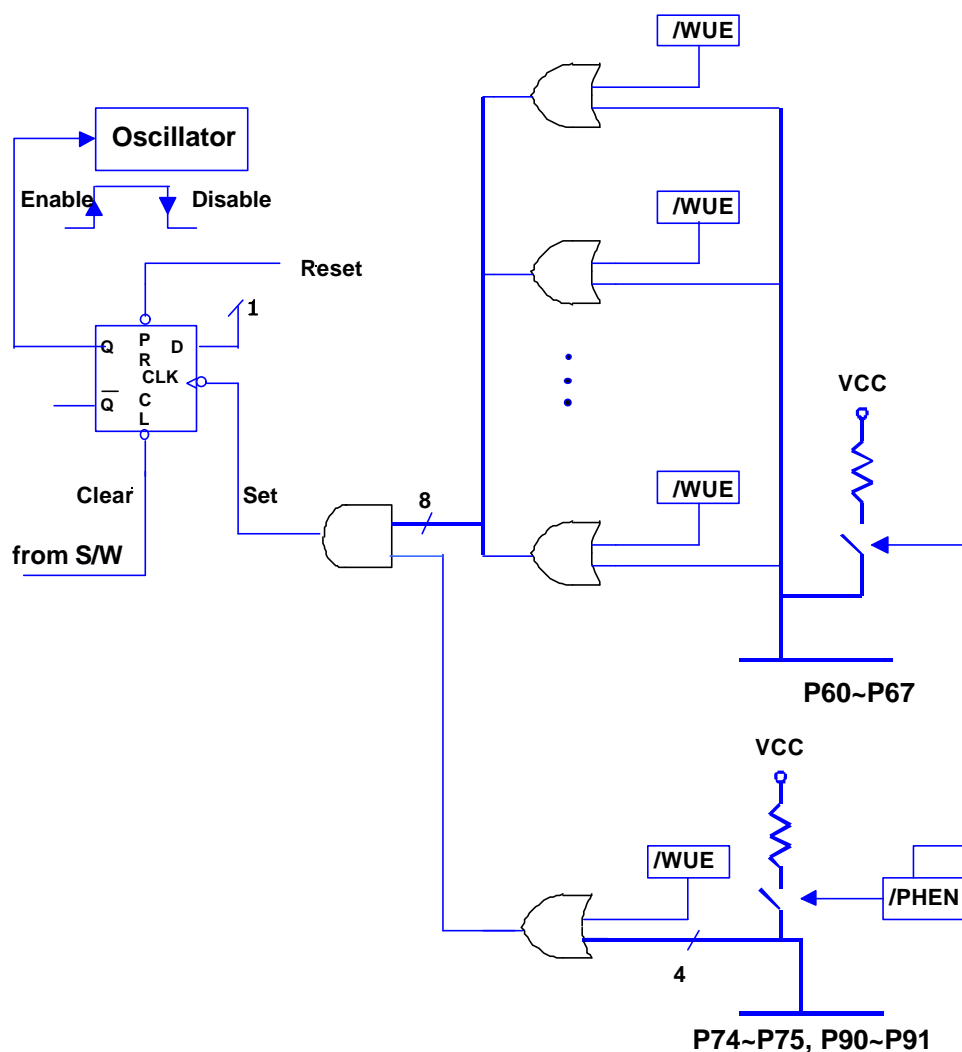

Fig. 5 Block Diagram of Sleep Mode and Wake-up Circuits on I/O Ports
- Bit 4 (SLPC) This bit is set by hardware at the falling edge of wake-up signal and is cleared in software. SLPC is used to control the oscillator operation. The oscillator is disabled (oscillator is stopped, and the controller enters the SLEEP2 mode) on the high-to-low transition and is enabled (the controller is awakened from SLEEP2 mode) on low-to-high transition. In order to ensure the stable output of the oscillator, once the oscillator is enabled again, there is a delay for approximately 18 ms (oscillator start-up timer (OST)) before the next program instruction is executed. The OST is always activated by wake-up from sleep mode whether the Code Option bit ENWDT is "0" or not. After waking up, the WDT is enabled if Code Option ENWDT is "1". The block diagram of SLEEP2 mode and wake-up caused by input triggered is depicted in Fig. 5. The SLPC bit can be read and written.